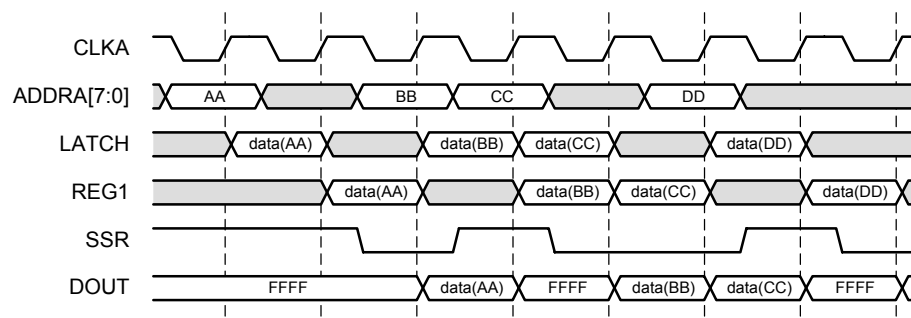
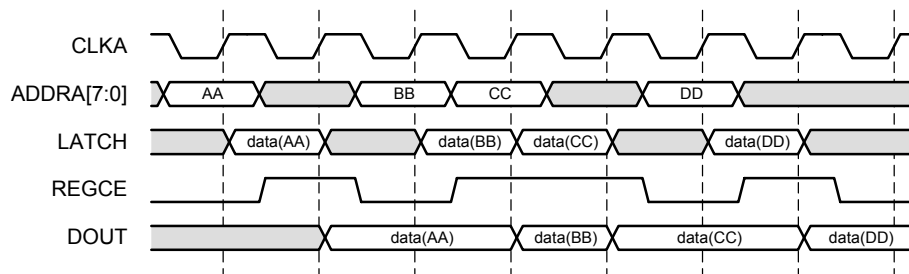

Figure 18: Flow Control Using SSR
Figure 19: Flow Control Using REGCE
The combination of the enable (EN), reset (SSR), and register enable (REGCE) pins allow a wide range of data flows in the output stage. Figure 18 and Figure 19 are examples on how this can be accomplished. Keep in mind that the SSR and REGCE pins apply only to the last register stage.
Figure 18 depicts how SSR can be used to control the data output to allow only intended data through. Assume that both output registers are used, the port A reset value is 0xFFFF, and that EN and REGCE are always asserted. The data on the block RAM memory latch is labeled LATCH, while the output of the block RAM embedded register is labeled REG1. The output of the last register is the output of the core, DOUT.
Figure 19 depicts how REGCE can be used to latch the data output to allow only intended data through. Assume that only the memory primitive registers are used, and that EN is always asserted and SSR is